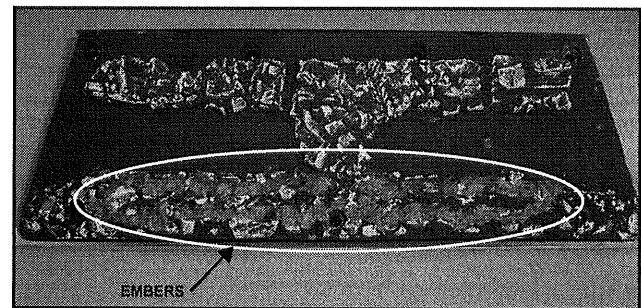

Figure 41
- Glowing embers can only be placed as shown around the front burner ports. Do NOT cover burner ports (see Figure 41).